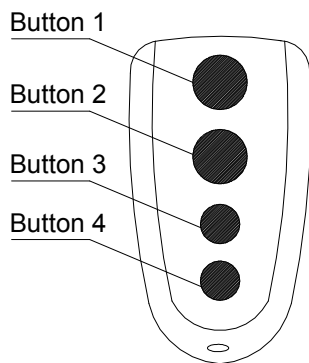

Fig.12 Remote transmitter
- The remote control works in a single channel mode. It has four buttons. See Fig.12 Remote transmitter. The function of button 1, button 2, and button3 are the same. With each press of the remote control button which has been programmed, the gate will close, stop, open or stop cycle. Button 4 is available for pedestrian mode. Note: if you canceled the pedestrian mode, the function of button 4 is same as the other three buttons.